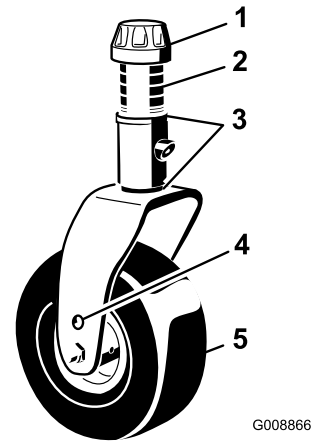

Figure 101
1. Remove the tensioning cap from the spindle shaft and slide the spindle out of the castor arm (Figure 101). Reposition the shims, as required, to raise or lower the castor wheel until the cutting unit has the correct pitch.